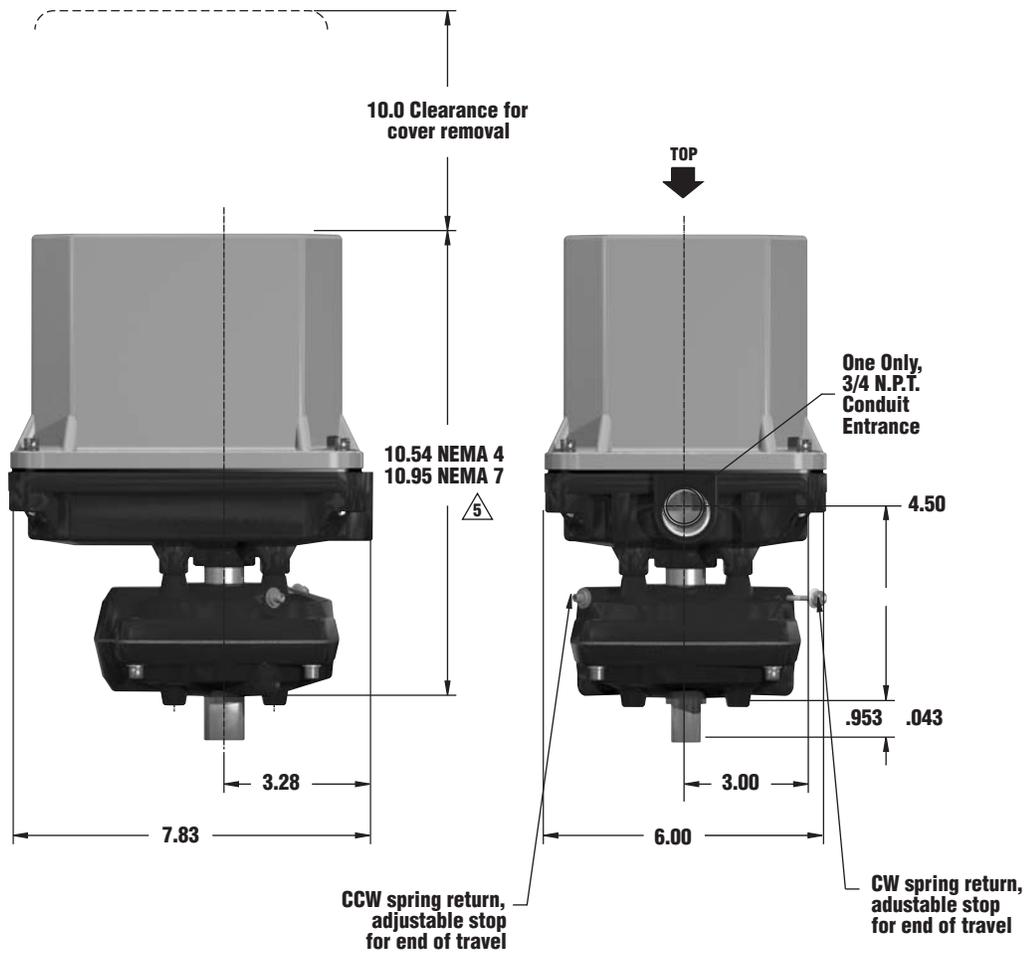

Figure 4
**Note:** Ensure the driven device is properly positioned in its full fail position. If it is not, use the adjustable end of travel stop on the Sure 24/25 (see figure 4) to properly adjust the fail end of travel. Only the fail end of travel may be adjusted. Loosen the lock nut to free the adjusting screw, then use an allen wrench to turn the screw. The total adjustment available is +/- 5°.